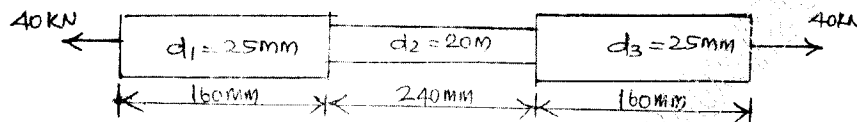

Fig. Q8 (b)
- b. A bar shown in Fig. Q8 (b) is tested in universal testing machine. It is observed that at a load of 40 kN, the total extension of the bar is 0.285 mm. Determine the Young's modulus of the material. (10 Marks)